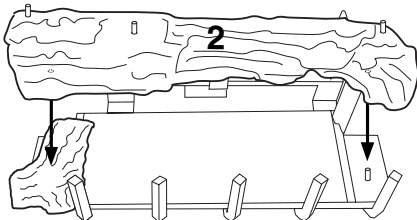

Figure 24 - Installing Log #2, Model CD42M-A
2. Rest left side of log #2 (front log) on top of log #1 and right side onto pin located on right side of grate extension (see Figure 24).